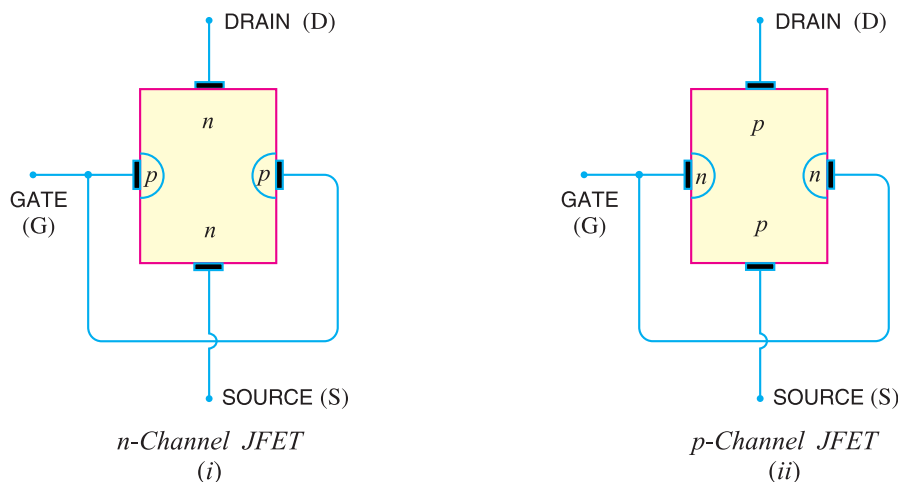

Fig. 19.1
Constructional details. A *JFET* consists of a *p*-type or *n*-type silicon bar containing two *pn* junctions at the sides as shown in Fig.19.1. The bar forms the conducting channel for the charge carriers. If the bar is of *n*-type, it is called ***n-channel JFET*** as shown in Fig. 19.1 (i) and if the bar is of *p*-type, it is called a ***p-channel JFET*** as shown in Fig. 19.1 (ii). The two *pn* junctions forming diodes are connected *internally and a common terminal called *gate* is taken out. Other terminals are *source* and *drain* taken out from the bar as shown. Thus a *JFET* has essentially three terminals *viz.*, ***gate*** (*G*), ***source*** (*S*) and ***drain*** (*D*).
* It would seem from Fig. 19.1 that there are three doped material regions. However, this is not the case. The gate material **surrounds** the channel in the same manner as a belt surrounding your waist.